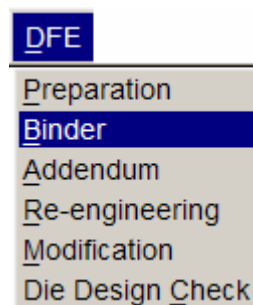

Figure 26 DFE menu
1. Select **DFE**→**Binder** from the menu bar, as illustrated in Figure 26